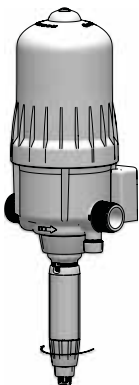

Fig. 12
- Unscrew the dosing locking nut (**Fig. 12**).